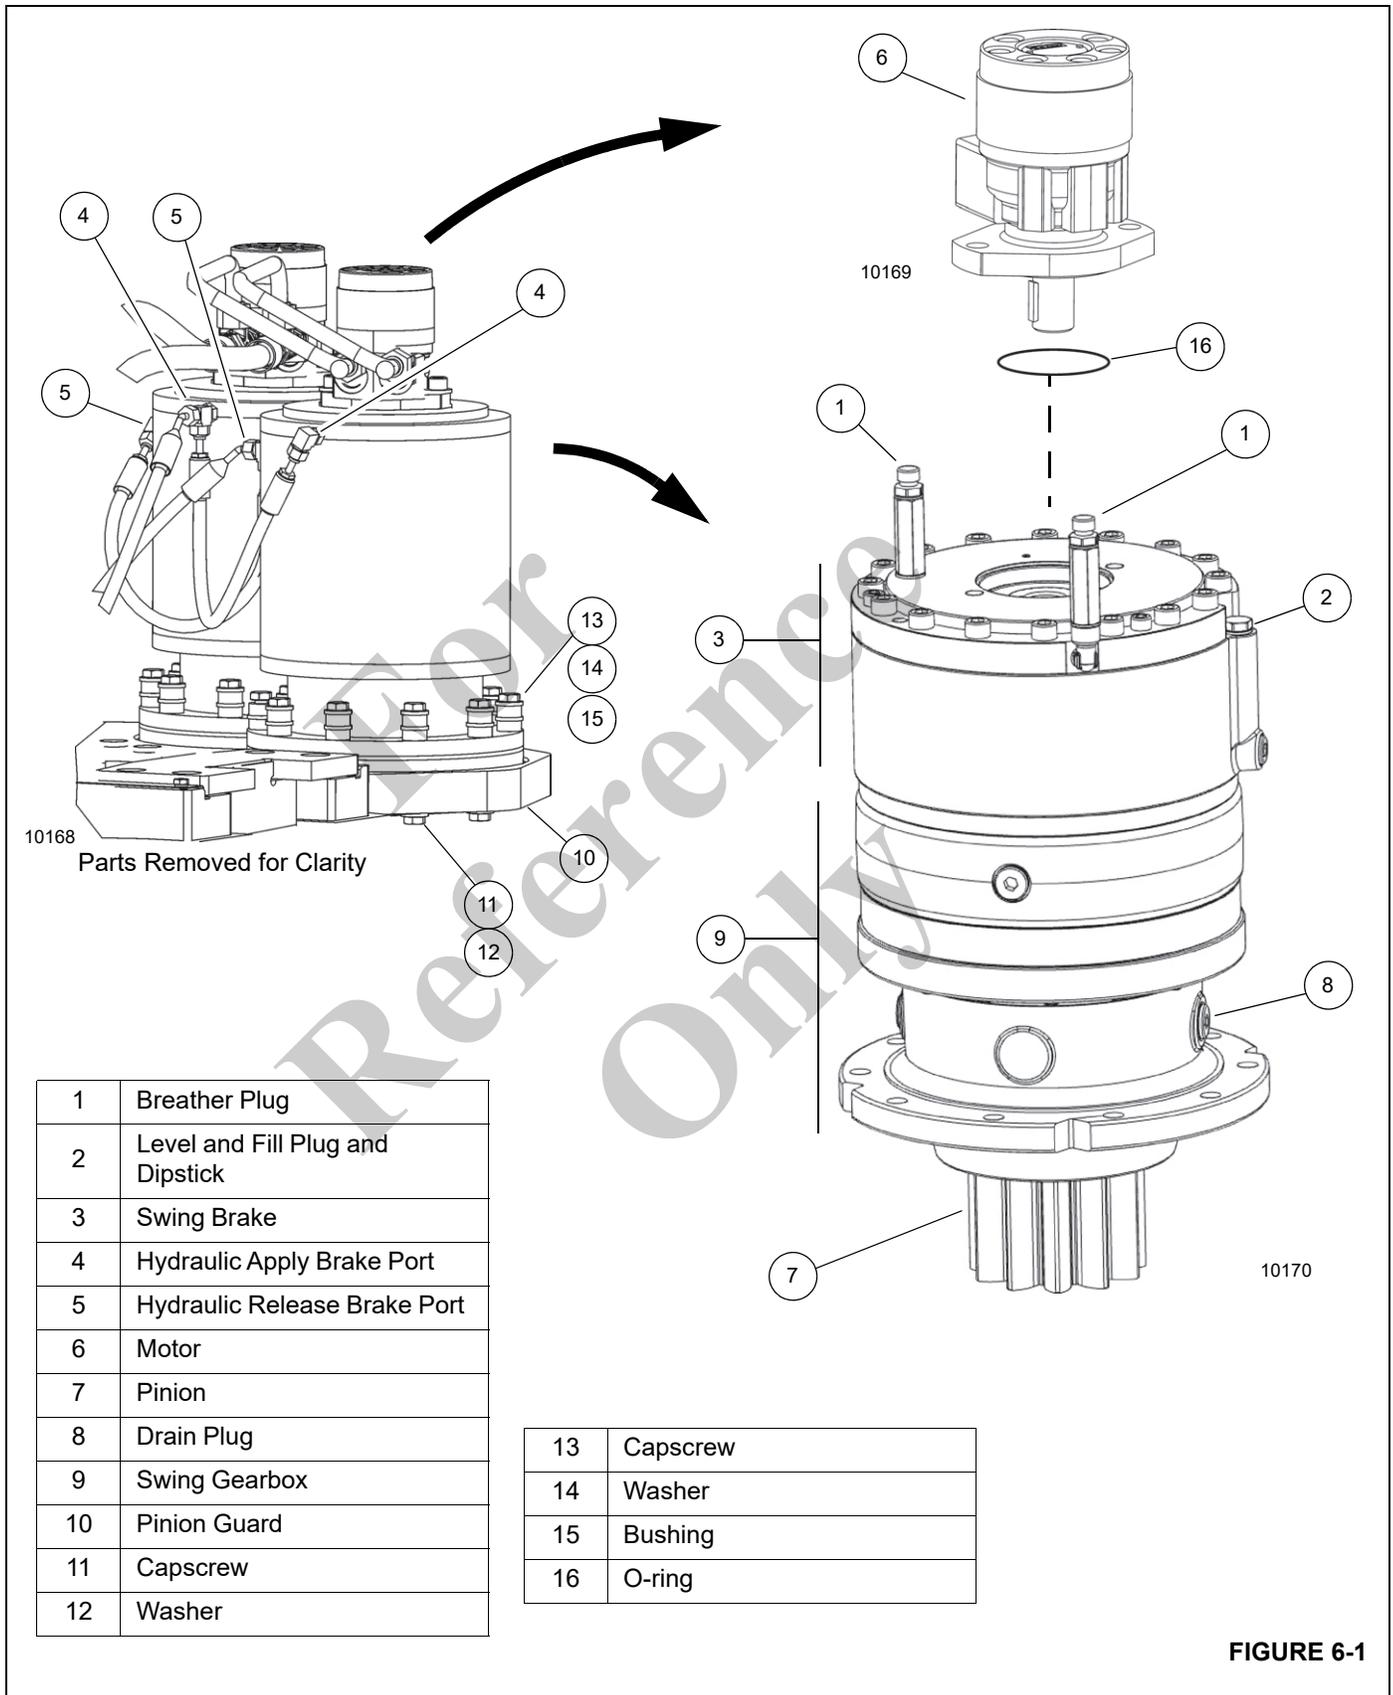

FIGURE 6-1
The hydraulic power for the swing drives Figure 6-1 is supplied by the engine driven hydraulic pump. Oil flows from the pump to the hydraulic swivel. Flow from the swivel is routed to the Swing Directional Control Valve.
The Swing Motors are mounted on the swing brake housings and drives the swing gearboxes through the brake assemblies (6, Figure 6-1). The motors have two ports for connections to the hydraulic system.
The Swing Gearbox and Brake (Figure 6-1), used with the Swing Motor, rotates and stops the superstructure. A pedal on the cab floor activates the Swing Brake (1). The Swing Gearbox (2) is bolted to the superstructure base plate. Its pinion gear meshes with the turntable bearing ring gear to rotate the turntable.
1. Unscrew drain plug (8, Figure 6-1). Remove fill plug and dipstick(2) to ensure all oil has been removed.